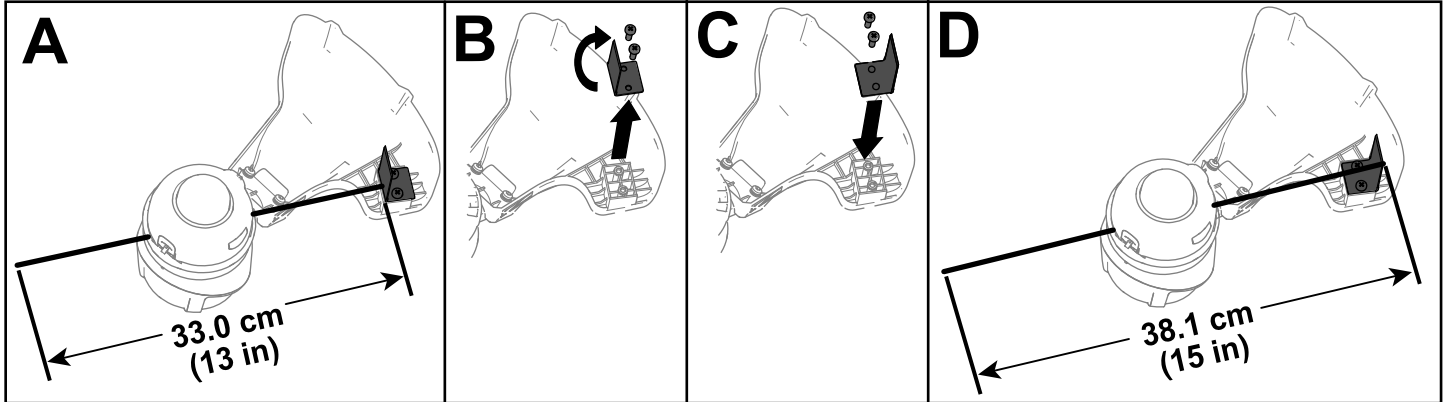

Figure 14
The trimmer comes from the factory with a cutting swath of 33.0 cm (13 inches) as shown in A of Figure 14. Refer to the following instructions to adjust the swath to 38.1 cm (15 inches) as shown in D of Figure 14.
1. Remove the swath blade from the bottom of the guard by removing the 2 screws holding it in place using the provided Allen wrench (B of Figure 14) and rotate the swath blade 180°.
2. Once the swath blade is rotated, install it onto the guard using the 2 screws previously removed (C of Figure 14).